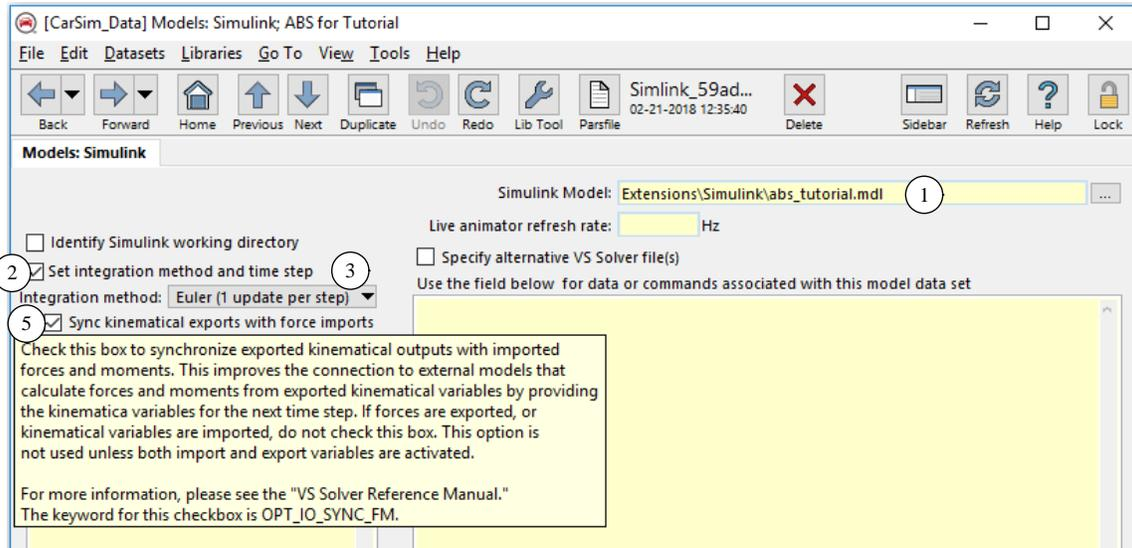

Figure 35. The option to synchronize exports with force imports.
7. You have now completely specified all of the variables that will be exchanged between the vehicle model and the external Simulink model for this example. Having done this, we will now consider one more control on the **Models: Simulink** screen. Click the **Back** button to return to this screen (Figure 35).
8. Right-click on the checkbox **Sync kinematical exports with force imports** (5). This checkbox is only shown when the integration method is Euler or AB-2; it is not applicable for other methods. With these two integration methods (Euler and AB-2), VS Solvers support two options for controlling the timing of the communication with outside software, specified with the system parameter OPT_IO_SYNC_FM that is set with this checkbox.